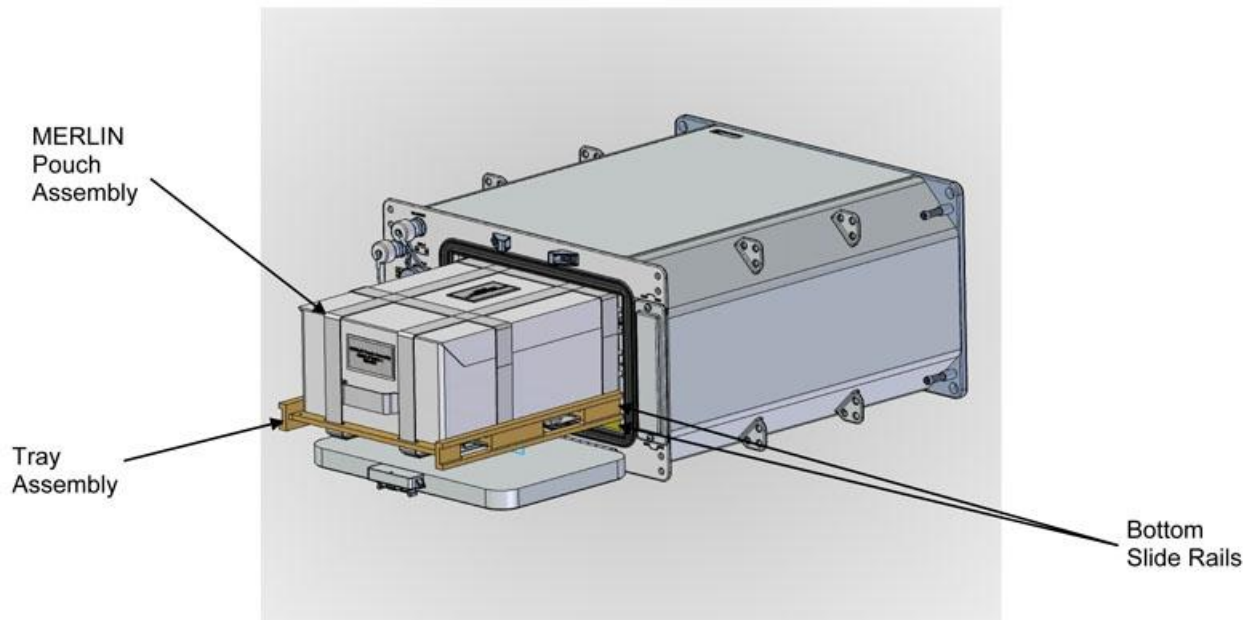

Figure 3. MERLIN Pouch Assembly Installed into MERLIN
- 5.8 Slide Pouch/Tray Assembly into MERLIN using bottom slider rails of internal volume, with label facing outward. Refer to Figure 3.